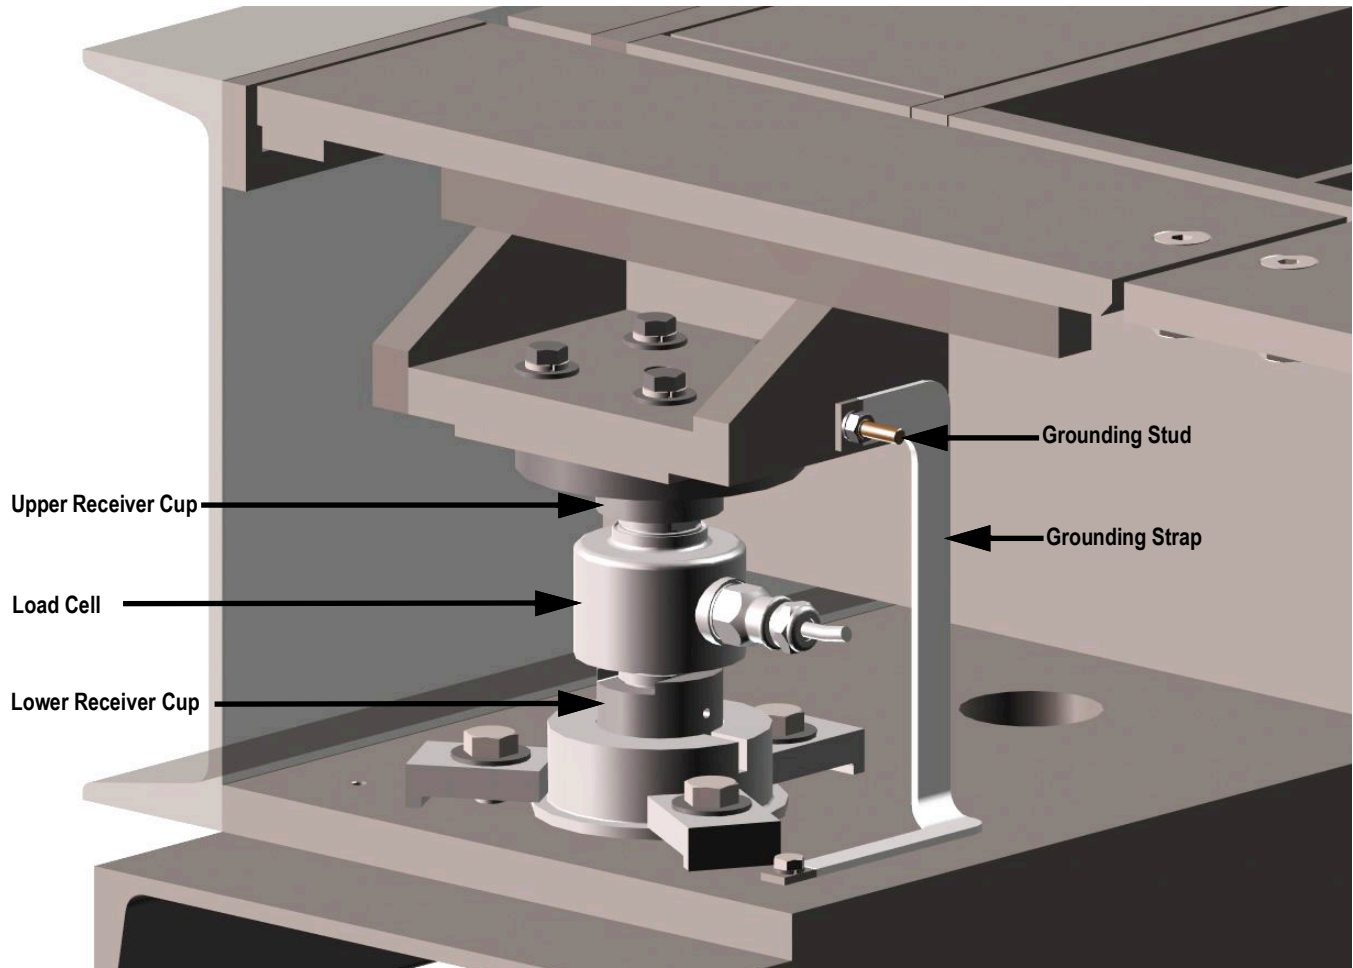

Figure 5-3. Load Cell Components and Grounding Strap Location
7. Install grounding strap by attaching it to the pit frame and secure it to the load cell plate (Figure 5-3).